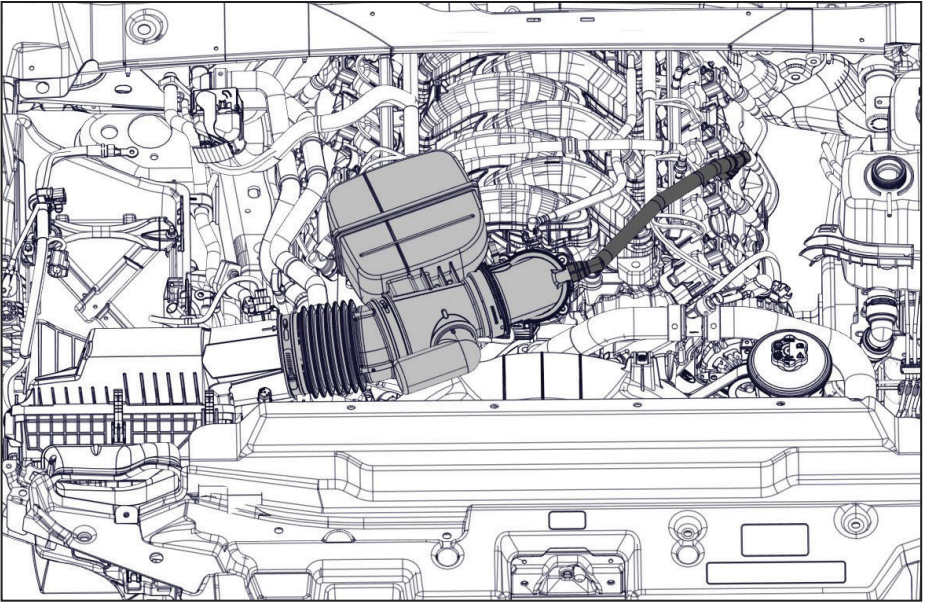

Figure 7 — Remove intake tube
- Disconnect the vacuum hose, remove the intake tube, and cover the openings (Figure 7).